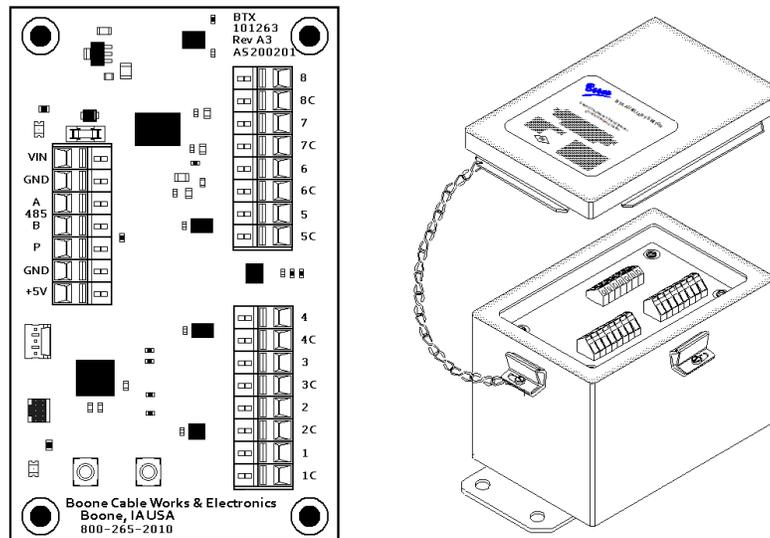

Figure 4. BTX Module board with BTX Module in enclosure
These are used to minimize the amount of wire and cable necessary by eliminating redundant runs. A full temperature system can keep track of #? separate thermocouple sensors. Only one Group (or section) of eight is connected to the module at any one time. The module is an enclosure that holds one or more of the BTX Boards or a BTX board with a KTX board to connect the information from the BTX back to a wireless Gateway. (See figure 4)
4.1.2. BTX module Board; This board (Figure 4.) has on one side, a power input (12V DC and common), a 485 output (A & B), a Motion sensor output (P(ulse), GND, +5V), and on the other side, 8 thermocouple inputs (2 blocks of 4).